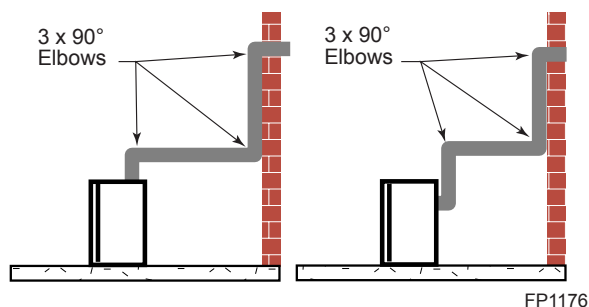
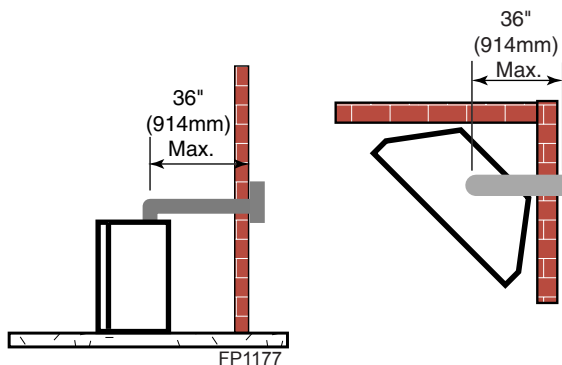

Figure 38 -
Figure 39 -
- The maximum number of 90° elbows per side wall installation is three (3). *Figure 38*
- If a 90° elbow is fitted directly on top of the fireplace flange the maximum horizontal vent run before the termination or a vertical rise is 36" (914 mm). *Figure 39*
- If a 90° elbow is used in the horizontal vent run (level height maintained) the horizontal vent length is reduced by 36" (914 mm). *Figures 39 & 40*. This does not apply if the 90° elbows are used to increase or redirect a vertical rise. *Figure 38*